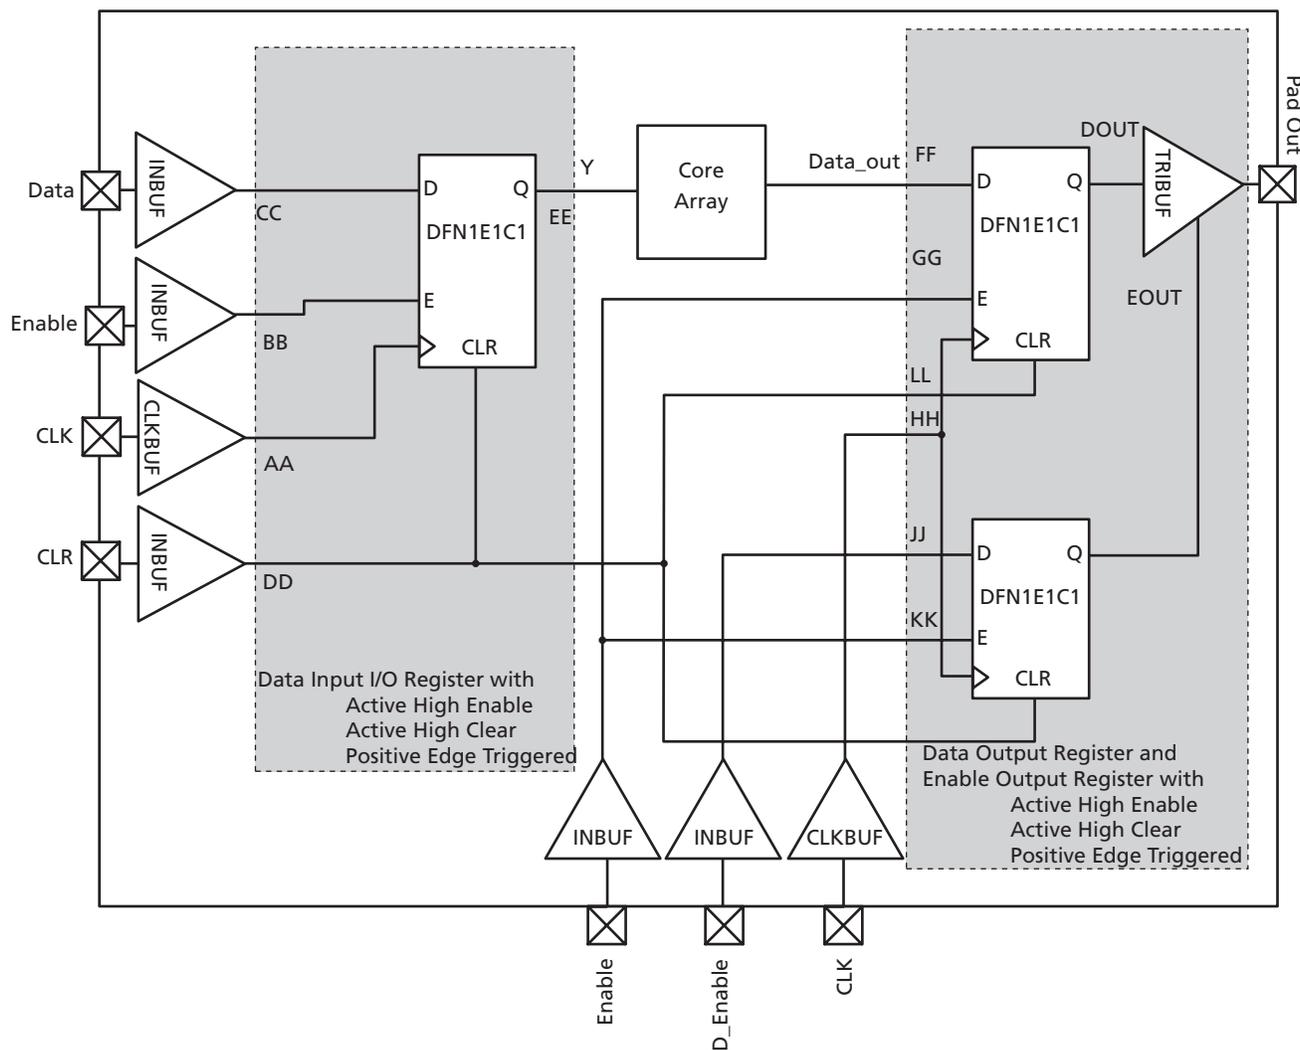

Figure 3-15 • Timing Model of the Registered I/O Buffers with Synchronous Enable and Asynchronous Clear
**Note:** \*See Figure 3-15 on page 3-63 for more information.